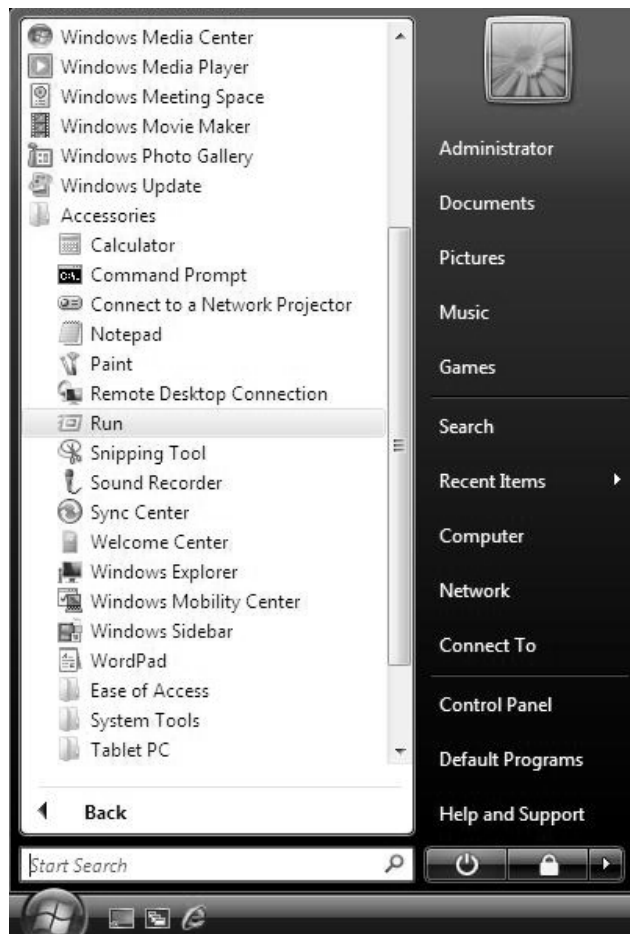

Fig.20
1. Start Button → All Program Files → Accessories → Click “Run” (Fig.20)